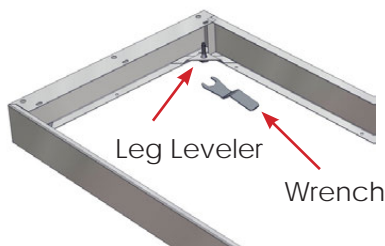

Fig. 2: Adjust Leg Levelers
2. If the cabinet ships with a separate base, place the base at the desired location for the cabinet. If Leg Levelers are provided with the base, use a level and the provided Wrench (Part# IC07-01) to adjust the four leg levelers in the cabinet base until the base is level (Fig. 2).